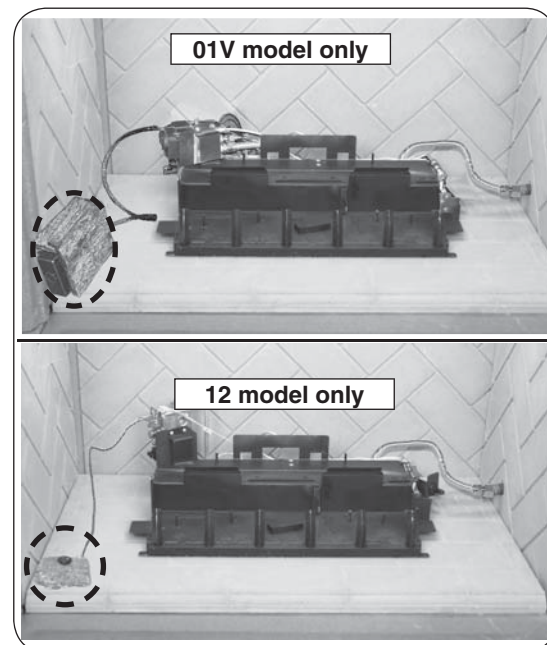

Fig. 19-2 Place battery box / switch
3. Place the burner system in the fireplace. Center the burner in the fireplace. (Reference Fig. 19-2 for orientation.)
6. **01V models only:** place the battery box extension at the front left corner of the fireplace. Place as far from the burner system as possible. Then place the decorative heat shield. See Fig. 19-2.
12 models only: place the wood-chip ON/OFF switch at the front left corner of the fireplace. Place as far from the burner system as possible. See Fig. 19-2.